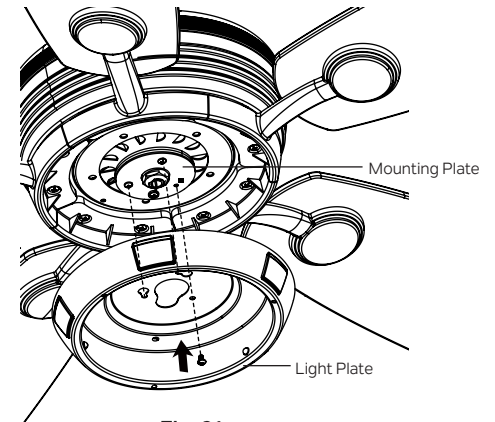

Fig. 21
**Step 2.** Place the two slot holes on the light plate over the 2 screws previously loosened from the mounting plate. Rotate the light plate until it locks in place at the narrow end of the key holes. Secure by tightening the 2 screws previously loosened and the one previously removed. (Fig. 21)